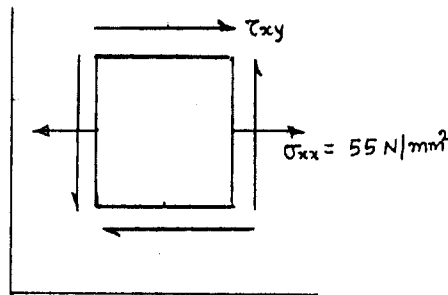

Fig.Q1(b)
- b. The state of stress at a point in a structural member is shown in Fig.Q1(b). The tensile principal stress is known to be  $84 \text{ N/mm}^2$ . Determine i) the maximum shearing stress at the point and orientation of its plane ii) the shearing stress  $\tau_{xy}$ . (10 Marks)